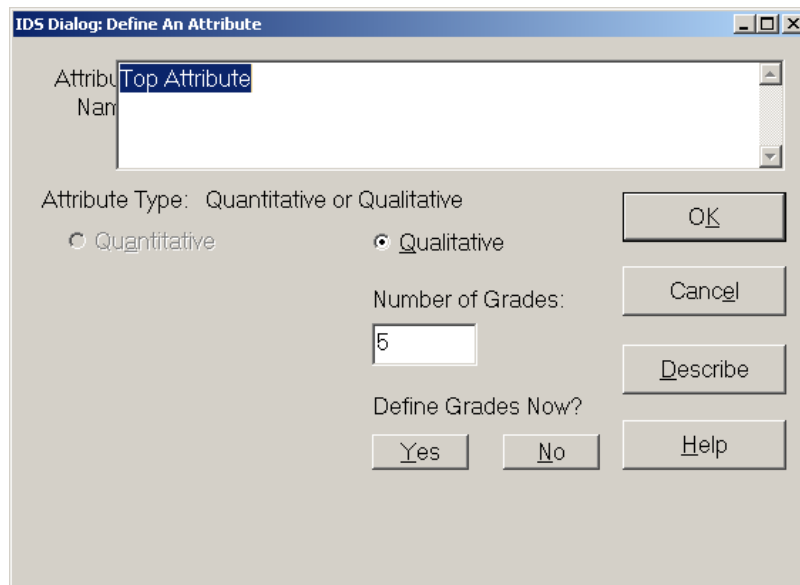
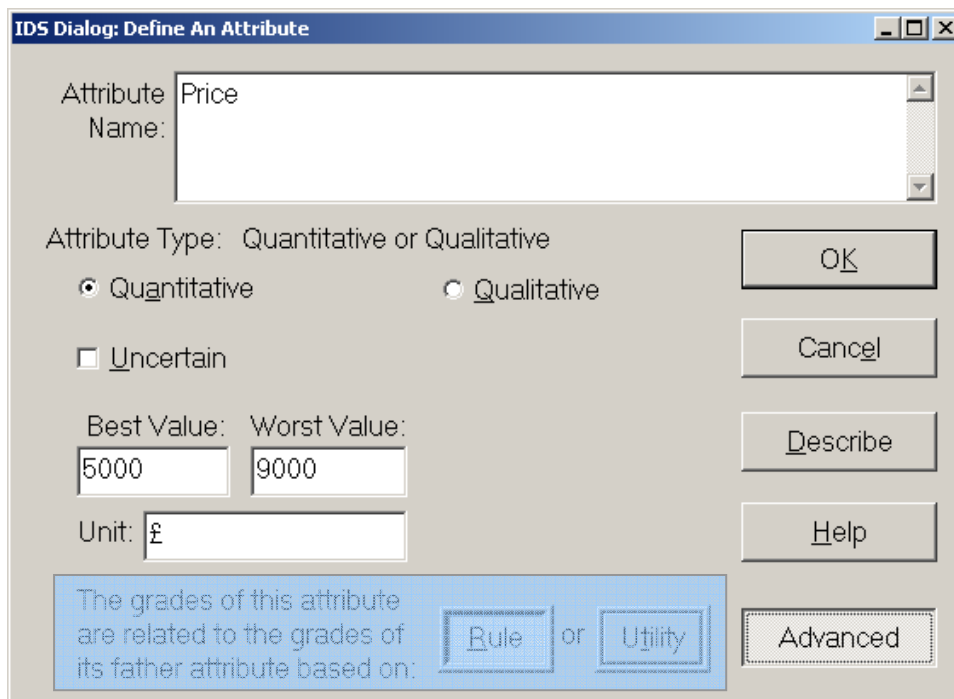

Figure 2.5 Define A Qualitative Attribute
Figure 2.7 Define A Qualitative Attribute
- From the dialogue window, click the *Quantitative* radio button (**Figure 2.7**)
In the attribute definition dialog (**Figure 2.5** and **Figure 2.7**), you are asked whether the attribute to be defined is related to its father attribute based on rule or utility. This section will explain what the difference is between the two. It is an advanced feature of the IDS. You may skip answering the question if you are not sure how to handle it. By default, the IDS program will assume a linear value or utility function for each attribute.
This is the so-called rule based approach. If you prefer to relate *Price* to *Overall Performance* by rules, then you should select the *Rule* button when defining the *Price* attribute using the dialog box shown in **Figure 2.7**. After the *Rule* button is selected, you can then select from the main menu of the IDS window *Modelling->Convert Values* to pop up the *IDS Dialog: Convert Child Attribute's Values (or Grades) to Its Father's Grades* (**Figure 2.11**). From this dialog, you can input the rules.
- Click the *Utility* option in the *Define An Attribute* dialog window (**Figure 2.7**)